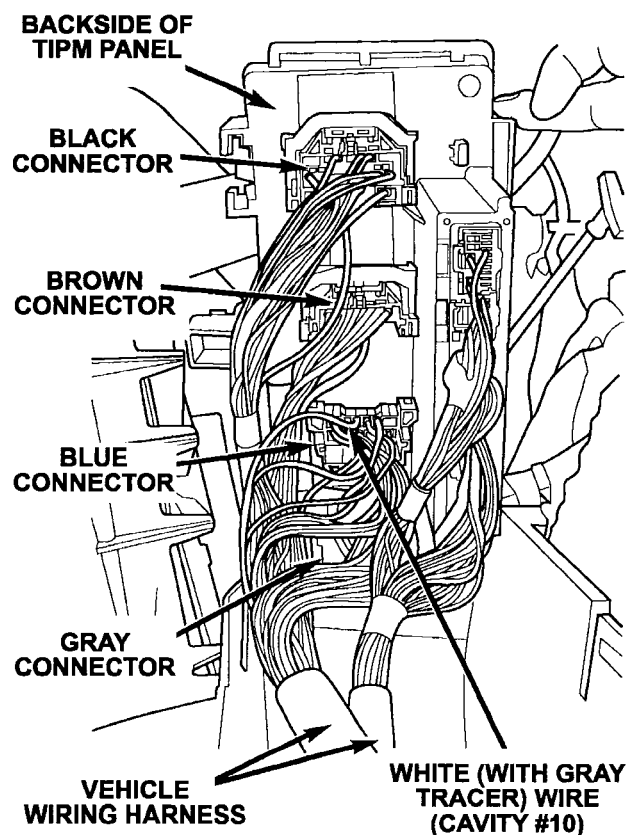

Figure 8
29. Locate the **white (with gray tracer) wire** on the **blue TIPM connector** (Figure 8).